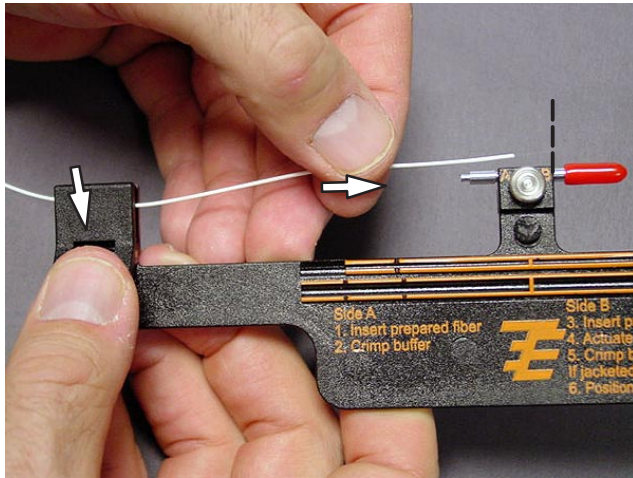

Figure 12
1. Open the clamp on side A and align the tip of the fiber with the edge of the holder as shown in Figure 12.